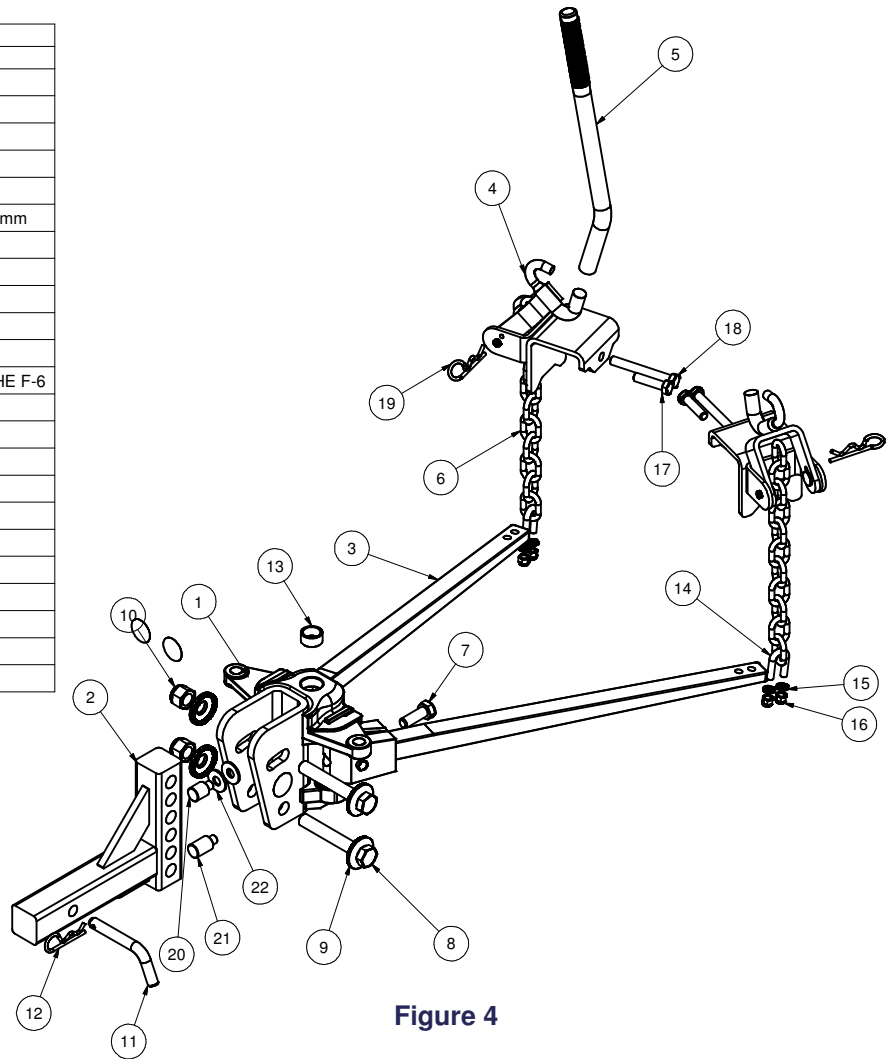
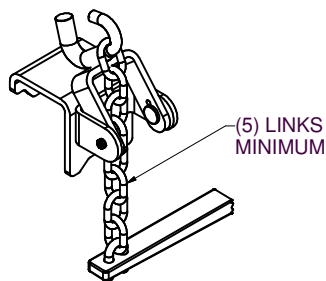

Figure 4
Figure 8
1. Insert shank into receiver and install pin and clip. See Figure 4.
2. Select hitch ball to match trailer coupler socket, having 1" or 1 1/4" threaded shank and capacity equal to or exceeding the gross trailer weight. When using a ball with a 1" shank, bushing (13) must be used. Attach the ball to the head assembly (1) using a **lockwasher** and nut.
3. Assemble head to shank as shown in Figure 4. Use washers (22) over pin (20 or 21) initially.
6. Assemble chains to spring bars as shown in Figure 4. Allow 2 - 3 threads to protrude below locknut **Chain must not bind.**
3. **THERE MUST BE AT LEAST 5 LINKS BETWEEN THE SNAP-UP BRACKET AND THE SPRING BAR.** This is necessary for proper operation of the spring bars during turns (See figure 8). **IF THERE WILL BE LESS THAN 5 LINKS** between the snap-up bracket and spring bar, the angle of the head assembly (1) must be increased. The trailer must be uncoupled and the upper bolt removed from the head assembly. The head assembly is then pivoted down and an additional washer is added underneath the pin (See figure 4). Reassemble.